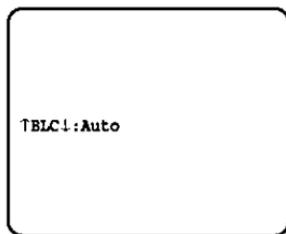

Fig. 7
1. Display the BLC Menu as shown in Fig. 7 by repeating the previous procedures.